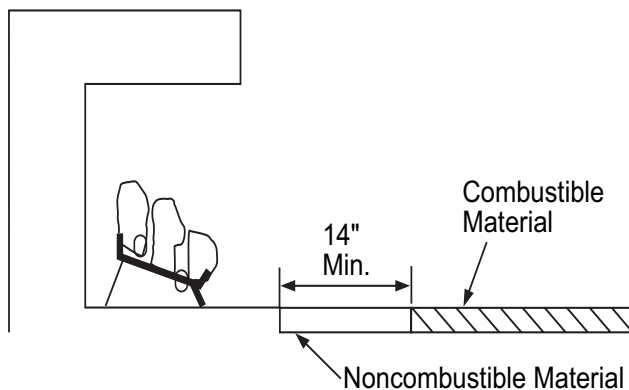

Figure 6 - Minimum Fireplace Clearances If Installed at Floor Level
- If installing appliance on the floor level, you must maintain the minimum distance of 14" to combustibles (see Figure 6).